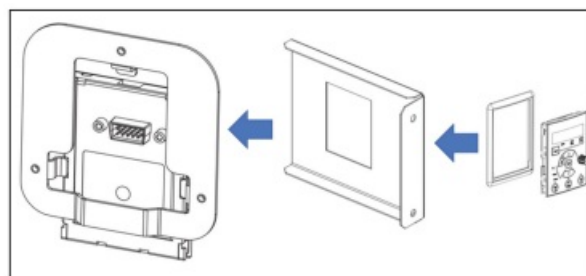

Figure 6: LCP remote mounting kit instructions
2. Using the LCP remote mounting kit, mount the LCP keypad display into the keypad bracket. Refer to the LCP remote mounting kit instructions shown in Figure 6.